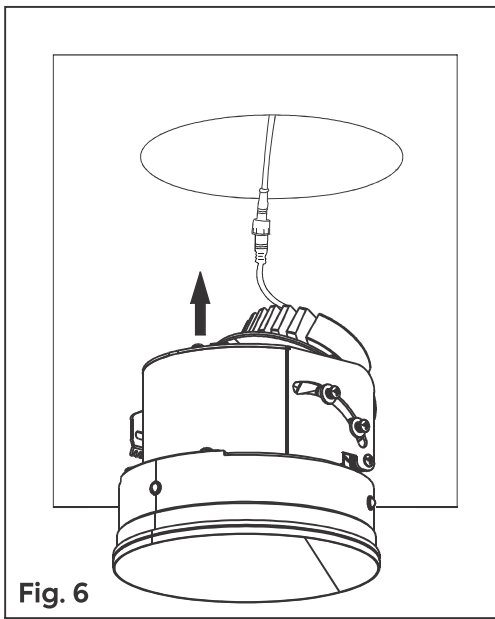
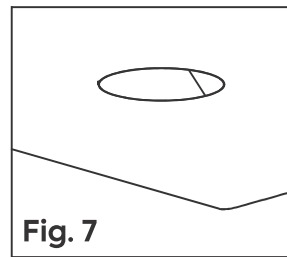

Fig. 6
Fig. 7
Step 6: Install the LED module and flangeless trim assembly through the opening of the spackle frame. An audible click will be produced once the trim is fully secured to the spackle frame. The opening edge of the flangeless trim reflector should be flush with the ceiling **Fig. 6** and **Fig. 7**.